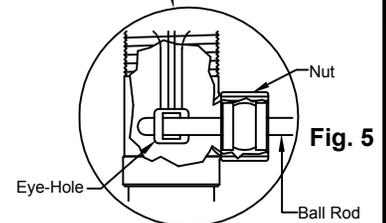

Fig. 5
- Insert stopper in collar and hold with eye-hole facing back (See Fig. 5).
- Insert ball rod into drain body below so short end of ball rod end fits in stopper eye-hole. Snug ball rod nut (do not over tighten). Ball rod must move up & down freely (See Fig. 5).